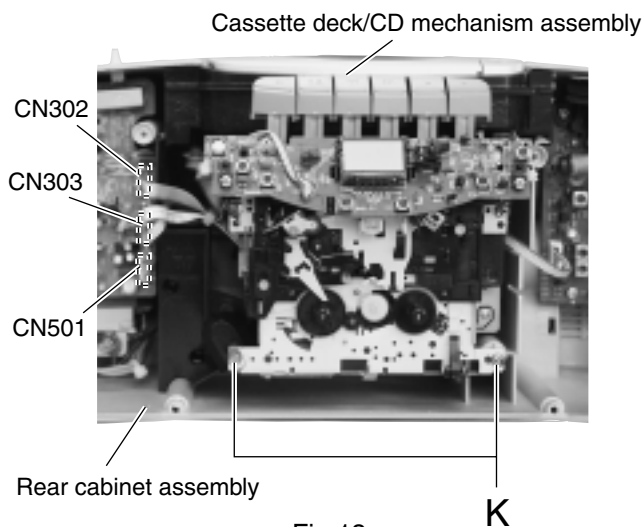

Fig.13
2. Disconnect the wires from the connectors CN302, CN303 and CN501 on the main board. (See Fig.13.)
3. Remove the two screws **K** retaining the cassette deck/CD mechanism assembly. (See Fig.13.)